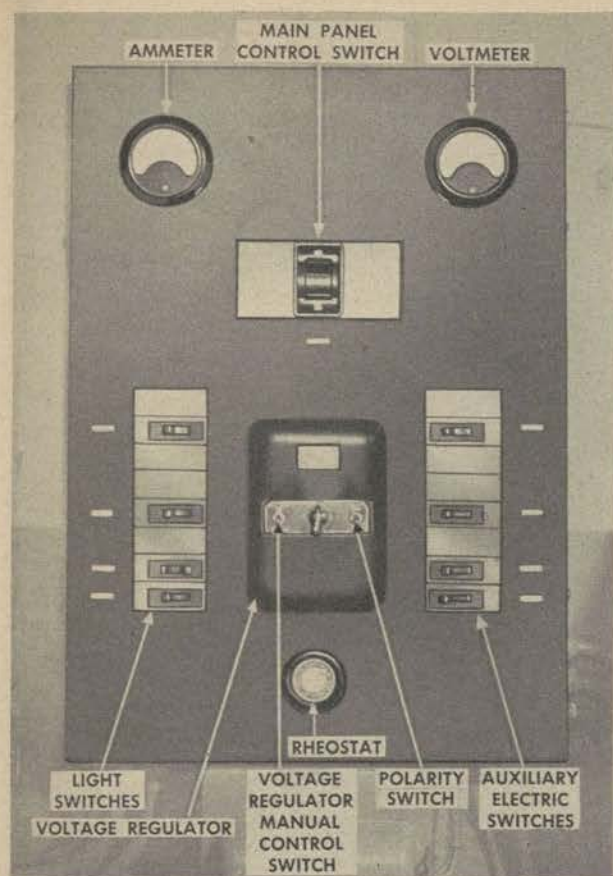

Figure 64. Main generator control panel.
(2) *Main generator control panel.* The main generator control panel is located on the port deck house bulkhead. The controls are shown in figure 64. The following outlines the function of each specific control on the panel:
c. *ELECTRICAL INSTRUMENTS.* (1) *Main generator control panel (fig. 64).* Instruments on the main control panel are as follows: